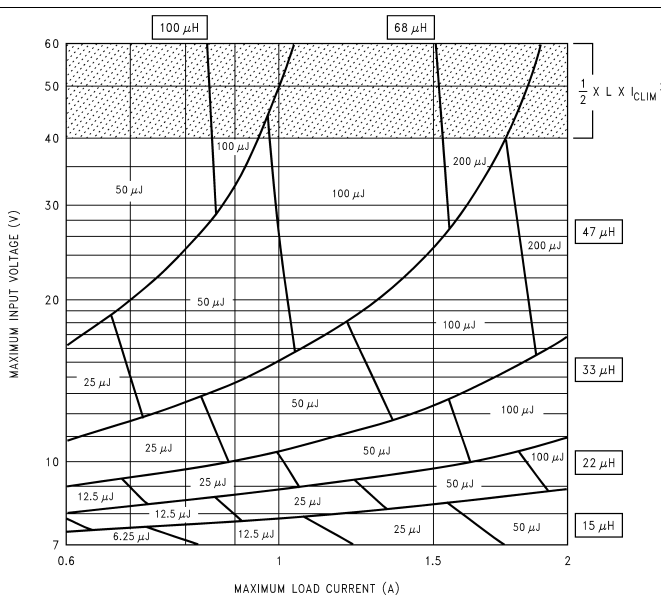

Figure 34. LM2593HV 5-V
1. A first pass inductor selection is based upon inductance and rated maximum load current. Choose an inductor with the inductance value indicated by the nomograph (see Figure 34) and a current rating equal to the maximum load current. Therefore, quick-select a 68-μH, 1-A inductor (designed for 150-kHz operation) for this application.
- Confirm that it is rated to handle 50 μJ (see Figure 34) by either estimating the peak current or by a detailed calculation as shown in *AN-1197 Selecting Inductors for Buck Converters* (SNVA038), and also that the losses are acceptable.
- A first pass inductor selection is based upon inductance and the switch current limit. Choose an inductor with the inductance value indicated by the nomograph (see Figure 34) and a current rating equal to I_{CLIM} . Therefore, quick-select a 68- μH , 4-A inductor (designed for 150-kHz operation) for this application.